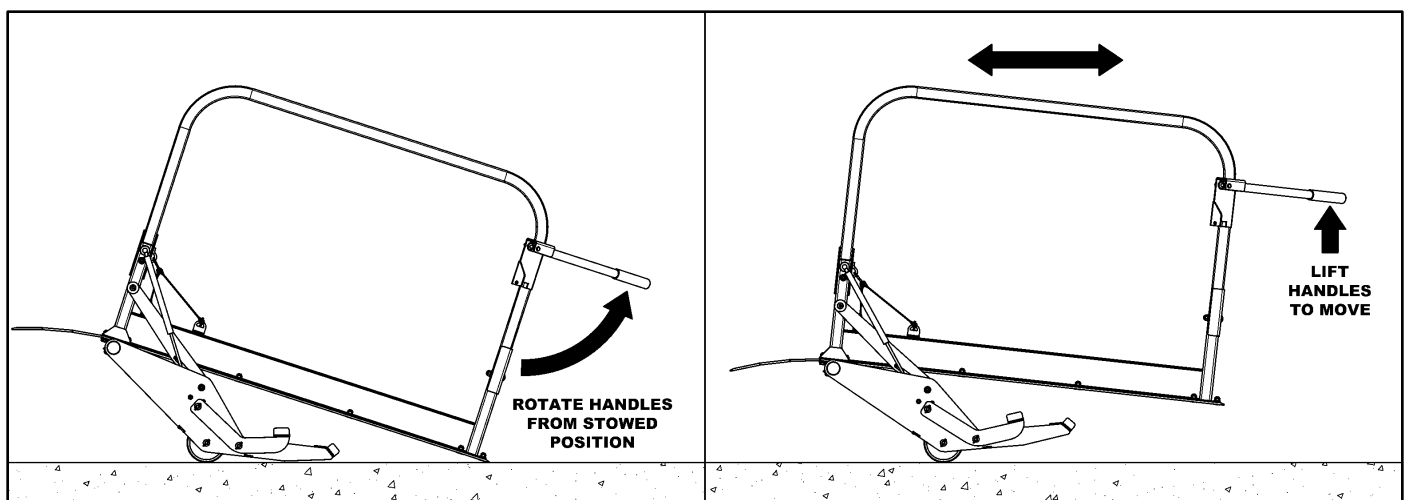

Figure 2
2. With truck board raised and wheels locked, pull the handles out from their stowed position and lift the truck board until the back of the ramp is a few inches off the ground (see Figure 2).
3. Using the handles, roll the truck board into position behind the vehicle so that the lip is sitting above the vehicle's cargo area (see Figure 2).